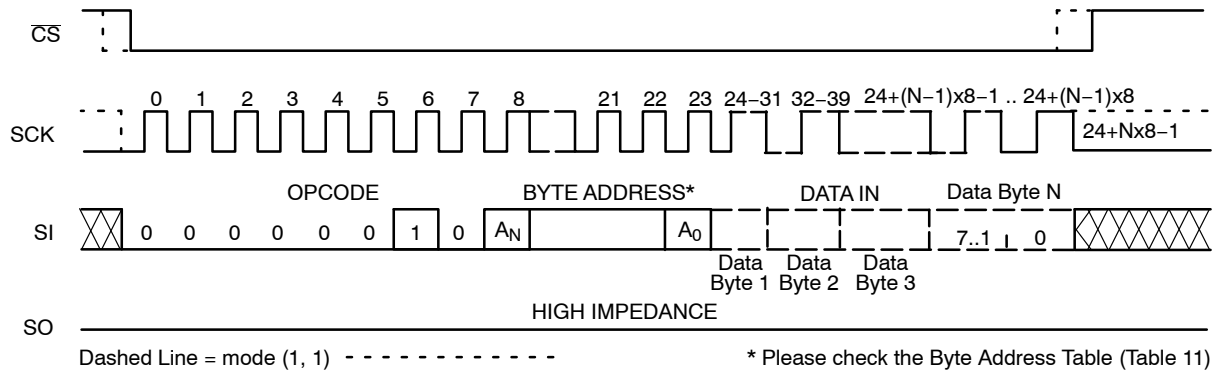

Figure 6. Page WRITE Timing
After sending the first data byte to the NV25512, the host may continue sending data, up to a total of 128 bytes, according to timing shown in Figure 6. After each data byte, the lower order address bits are automatically incremented, while the higher order address bits (page address) remain unchanged. If during this process the end of page is exceeded, then loading will “roll over” to the first byte in the page, thus possibly overwriting previously loaded data.
The additional 128-byte Identification Page (IP) can be written with user data using the same Write commands sequence as used for Page Write to the main memory array (Figure 6). **The IPL bit from the Status Register must be set (IPL = 1) using the WRSR instruction, before attempting to write to the IP.**